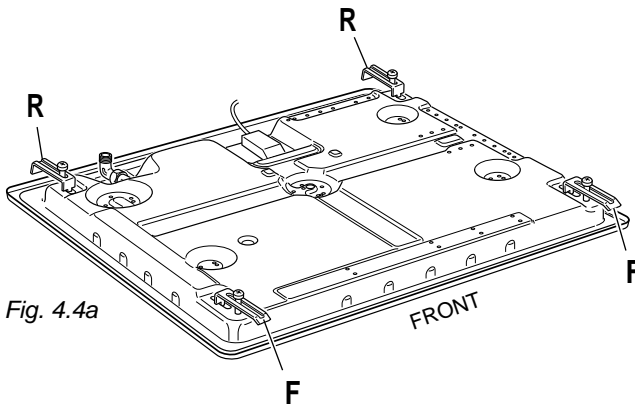

Fig. 4.4a
(figs. 4.4a, 4.4b, 4.4c)
- ✓ Make sure that the brackets are fastened as shown in figure 4.4a.